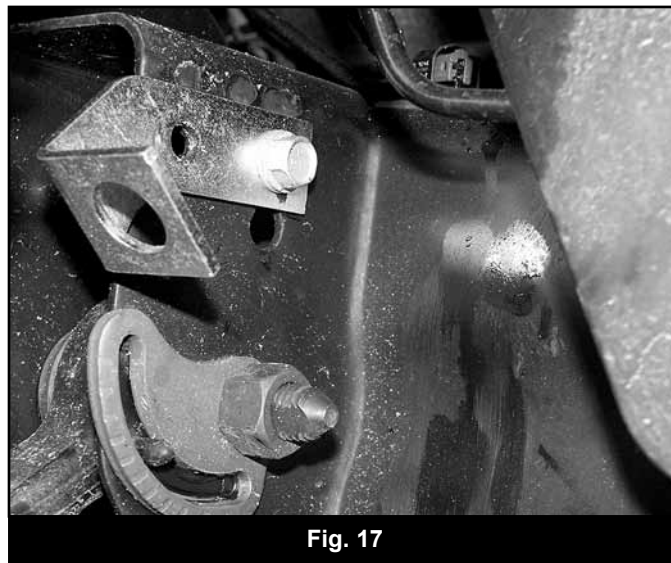

Fig. 17
38. 38. Attach the provided brake line bracket (02115-driv, 02116-pass) to the upper control arm mount using the original mounting hole/hardware and the newly drilled hole/provided 5/16" x 3/4" bolt, nut, flat washer and lock washer. (Fig 17) Leave hardware loose.